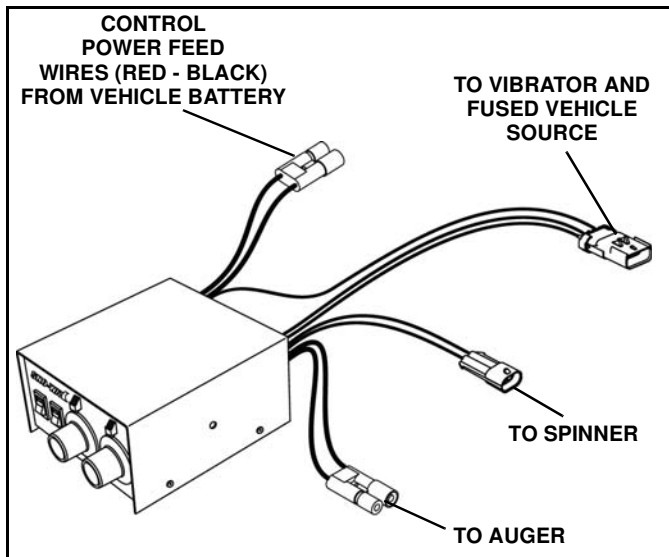

Figure 1-10
12. Connect the battery and main wiring harnesses inside the cab to the appropriate controller connectors (See Figure 1-10).